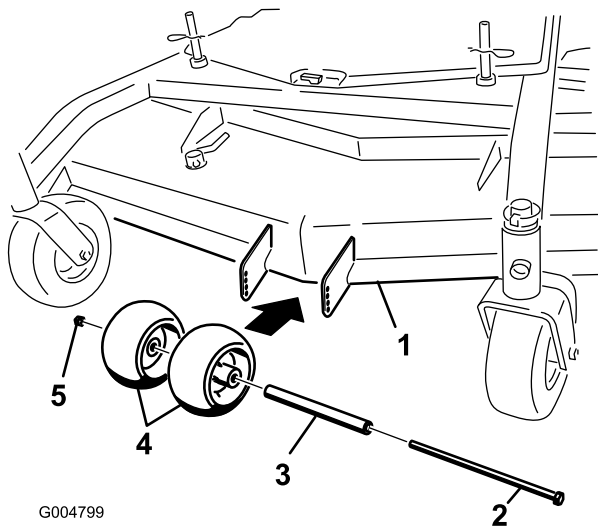
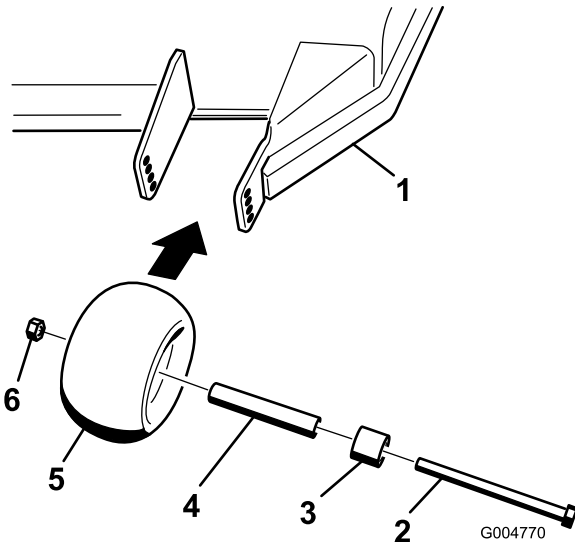
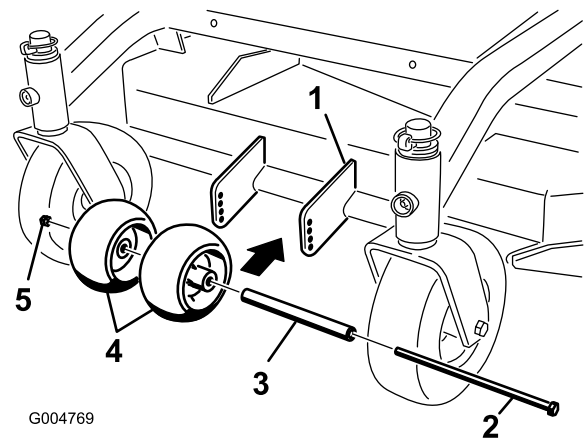

Figure 15
Figure 16
Figure 17
1. After adjusting the height-of-cut, check the anti-scalp rollers so that there is a minimum of 10 mm (3/8 inch) clearance above the ground (Figure 15, Figure 16, Figure 17).
2. If an adjustment is needed, remove the bolt, washers, and nut (Figure 15, Figure 16, Figure 17).
3. Select a hole position so that the anti-scalp rollers are a minimum of 10 mm (3/8 inch) off of the ground (Figure 15, Figure 16, Figure 17).
4. Install the bolt and nut (Figure 15, Figure 16, Figure 17).